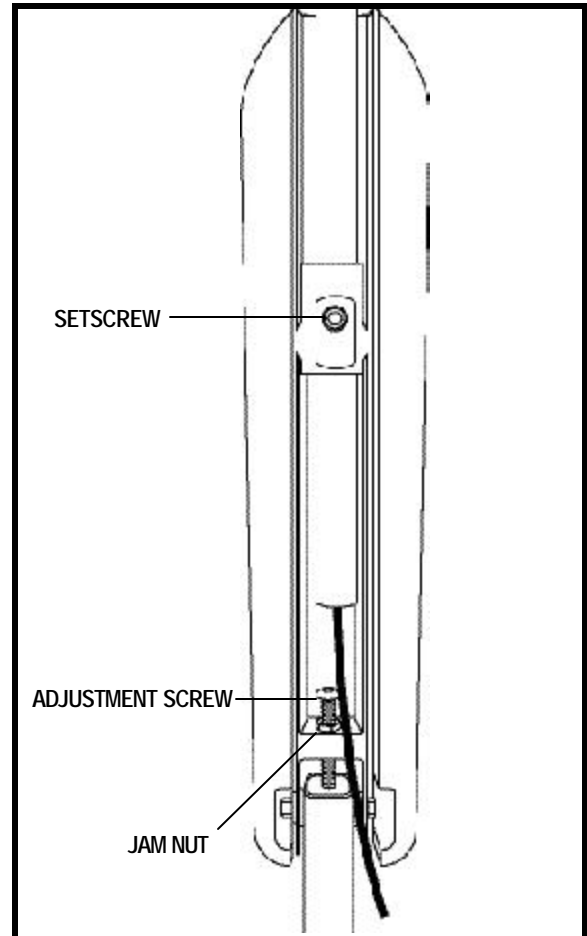

Figure 21. Armrest and Controller Adjustment (Underside of Armrest)
You can increase or decrease the armrest angle to fit your specific needs. See figure 21.
2. Loosen the jam nut. See figure 21.
2. Loosen the setscrew. See figure 21.
3. Lift the armrest until it is perpendicular to the floor and loosen the setscrew. See figure 21.